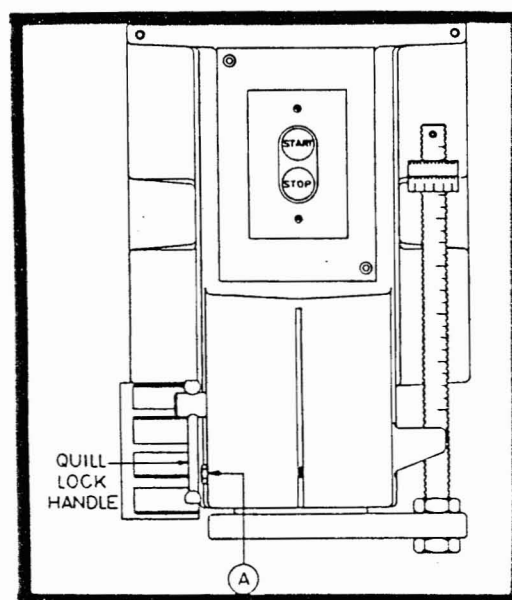

FIGURE 6
- a. Be sure quill lock handle (Fig. 6) is loose.
- b. Squeeze slotted head casting together slightly by tightening bolt (A). Apply just enough pressure to compensate for wear but do not restrict free motion down or return.
2. Loosen setscrew (C) (Fig. 6) and remove nut (D) on bottom of depth stop rod. Unscrew and remove depth stop.
3. Lower quill assembly to the position where the turret pinion shaft can be removed (E). Entire quill assembly will then slide out of head.